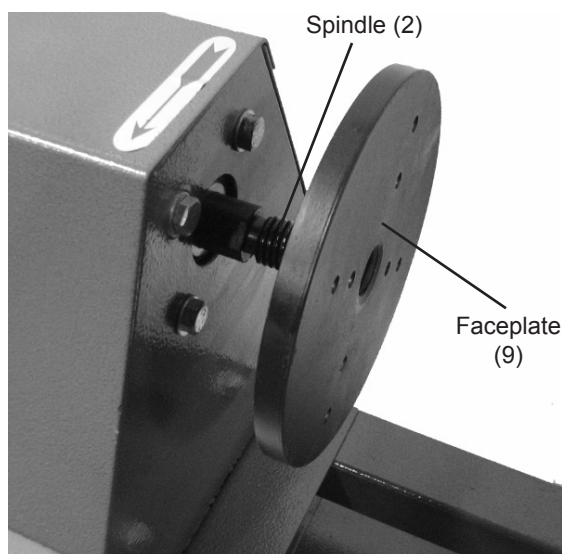

Figure 2
2. Once Drive Center is removed, thread Faceplate onto Main Spindle and hand-tighten only. See Figure 2.